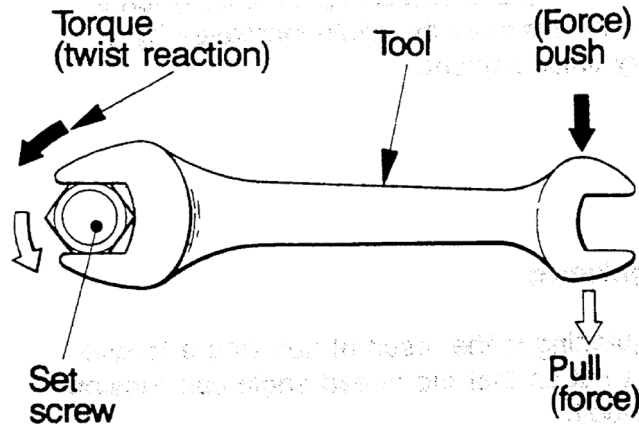

Figure 6 Force applied by a spanner
Applied **force** is the quantity of push or pull given to the tool by the operator. It is the amount of torque applied to a point and is measured in newtons (N). Figure 6 shows force being applied to a spanner.